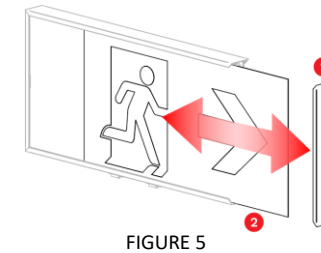

FIGURE 5
- Ensure correct decal is installed into product, if not, slide out default decal and replace with correct version (see Figure 5)